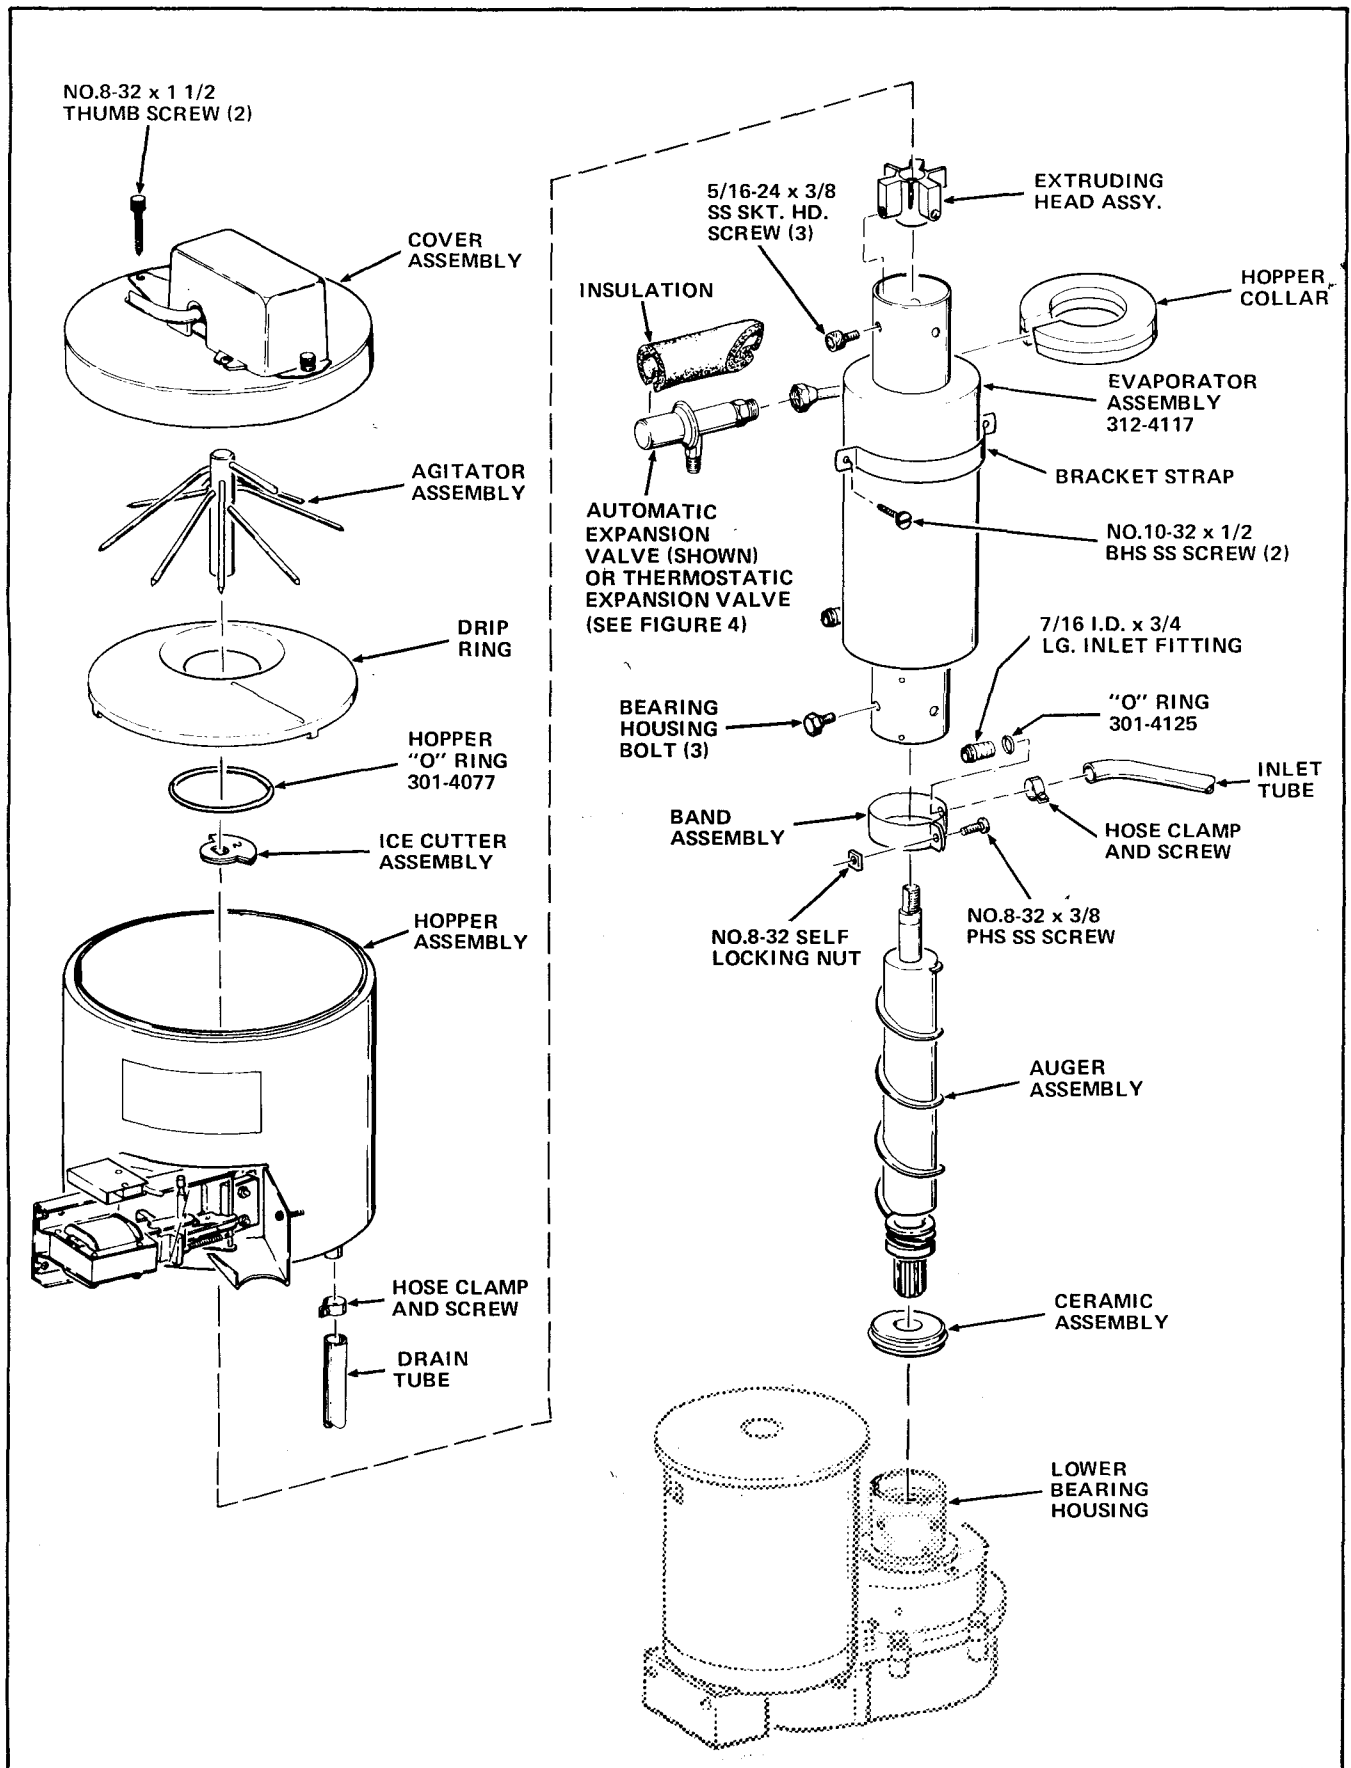

FIGURE 3
9. Disconnect the plastic Drain Tube at the Hopper and disconnect the Inlet Tube at the Water Feeder Cup. See Figure 3.
1. Install the Expansion Valve, retained during the Removal Procedures, on the replacement Evaporator Assembly, Part Number 312-4117, included in the Kit. See Figure 3.